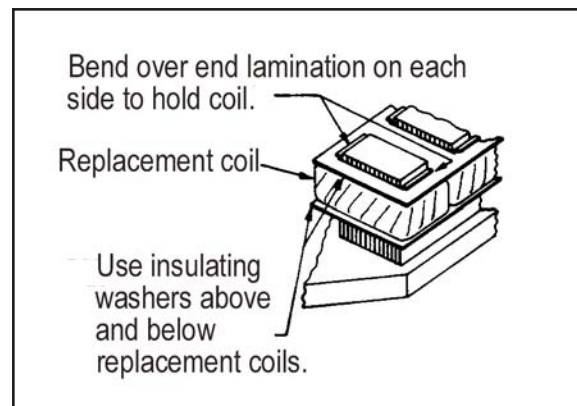

Figure 6. Fastening of Replacement Magnet Coils
24. Remove magnet assembly (3) (See Paragraphs 15 to 16).
25. Remove shading coils (51) (Single phase brakes only).
26. Coils (26) are held in place by epoxy cement or by bent over end laminations. Force coil off magnet if held by epoxy. Remove excess epoxy from magnet surfaces or bend up laminations and remove coils.
27. Replacement coils are held in place by bending of end laminations (See Figure 6). Insulating washers (27) are used above and below on replacements. Remember this when ordering replacement coils.